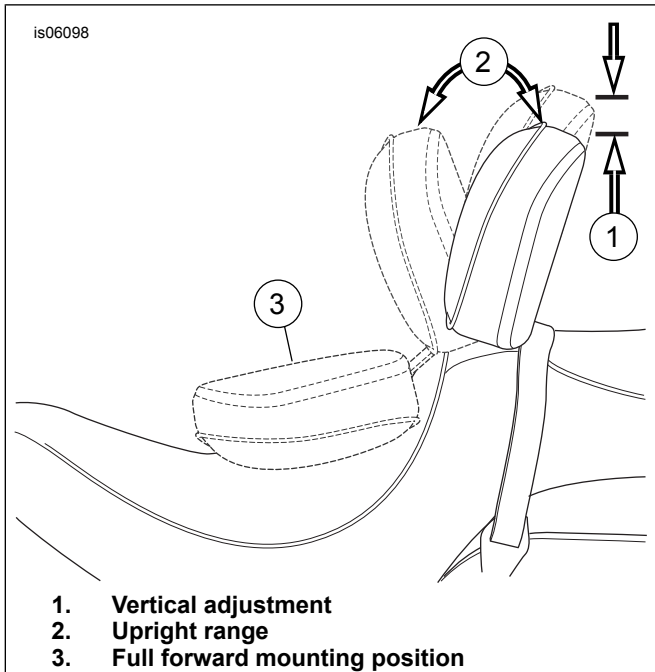

Figure 8. Backrest Postions
- Figure 8 With the backrest and seat in place, push the backrest to the fully forward position (3). The backrest mechanism will press against the underside of the seat and against the inserted seat protector.
1. Figure 8 The adjustment handle is used to move the backrest pad into the forward and rearward positions.
2. To adjust the backrest pad forward or rearward (2), push the handle. Leaning back against the backrest pad will help adjust it rearward. Keeping your weight off of the backrest pad while pushing on the handle will cause the backrest to come to its full forward position. Releasing the handle will lock the backrest into place.
3. To adjust the backrest pad up and down (1), pull the knob on rear of pad. Move the backrest up or down into the desired position then release when the pad is in the desired position.